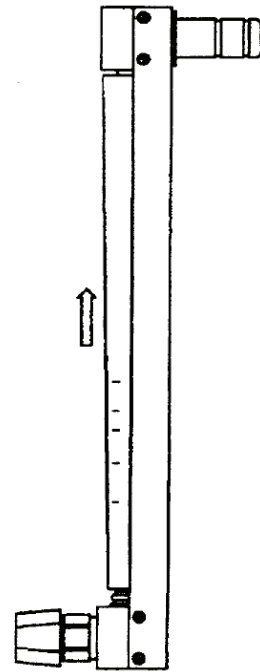

FIG. 3
4. Hold the glass tube gently and raise the top seal assembly clear of the tube end (Fig 3).